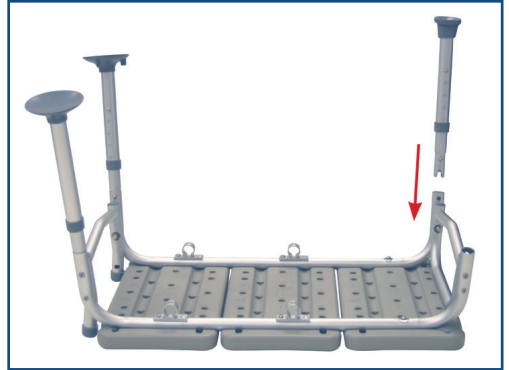

figure 3
6. Attach leg with small rubber tip (marked "B") by depressing brass push pin and inserting into the receptacle with matching "B". Repeat for second leg (Figure 3).